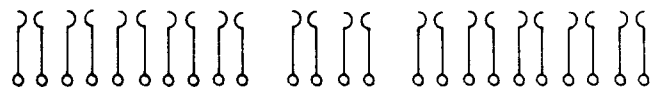

Fig. 16—346 or 346E Jack
2.16 **346 and 346E:** These multicontact jacks (Fig. 16) are used with the 242C plug and have ten pairs of contacts. These jacks consist of a wooden strip on which are mounted a number of pairs of contact springs. These jacks are designed for mounting on the shelf framework used for mounting wired assemblies of Step-by-Step Dial Switching Systems and to engage the plugs mounted on the rear of the mounting plates of these assemblies. These jacks are furnished with the springs adjusted, but can be adjusted when assembled in equipment units so that the two springs in any or all sets of the springs will make contact with each other when the plug is removed.